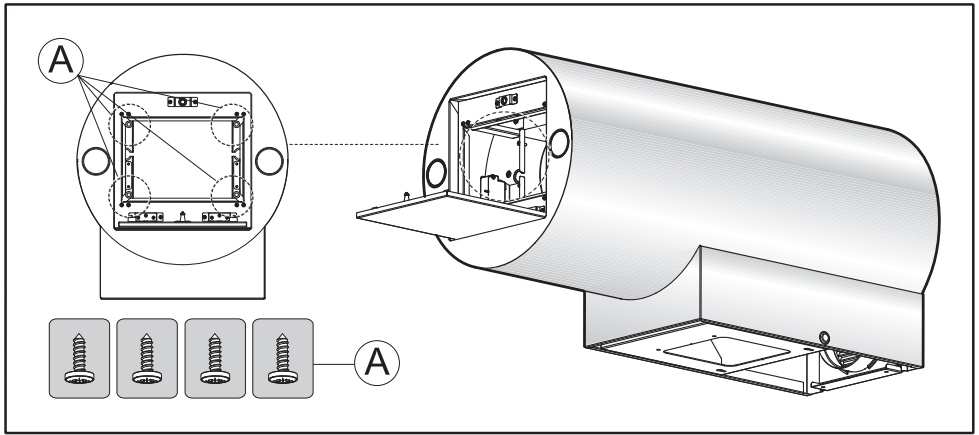

Fig.3
- Remove the four screws A as indicated in **Fig. 3**.